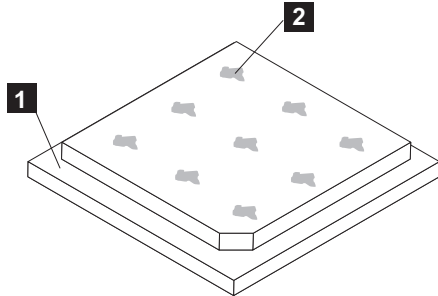

Figure 263. Applying thermal grease to the SAN Volume Controller 2145-CG8 or 2145-CF8 microprocessor
- e. Use the thermal-grease syringe to place 9 uniformly spaced dots of 0.02 mL each on the top of the microprocessor, as shown in Figure 263. The outermost dots must be within approximately 5 mm of the edge of the microprocessor to ensure uniform distribution of the grease.